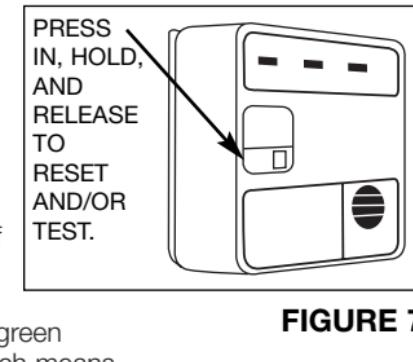

FIGURE 7
11. Firmly PRESS AND RELEASE THE TEST/RESET button. See Figure 7. The alarm should sound a short tone. The amber SERVICE light will turn on, and the CO alarm will go through its test cycle. The red LED will flash, and the alarm will beep four times followed by 5 seconds of silence and then repeat the cycle. After the test cycle, the amber SERVICE light will turn off, and the green POWER light will remain lighted which means the CO alarm is operating properly.